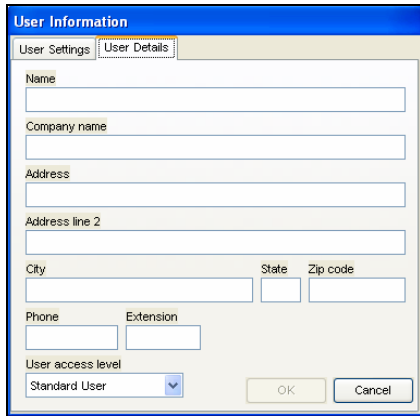

Figure 1.1.4
4. Next click on the **User Details** tab at the top of the same screen (Figure 1.1.4).